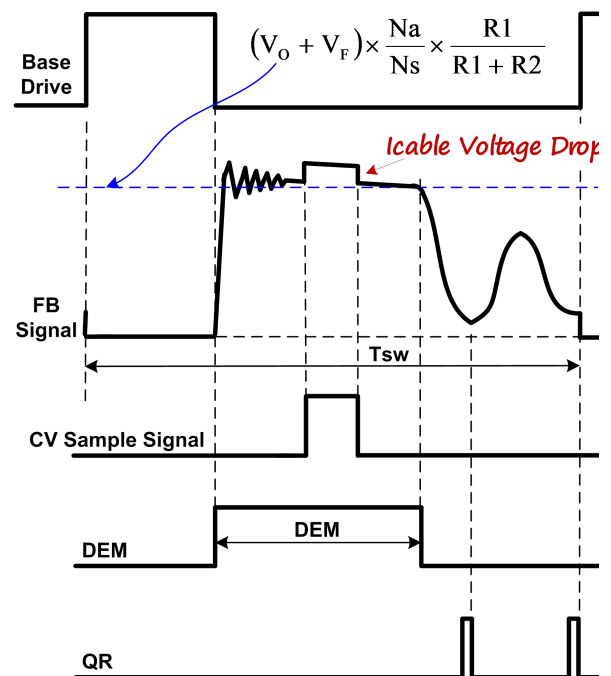

Fig.2
In Primary Side Regulation (PSR) control, the output voltage is sensed on the auxiliary winding during the transfer of transformer energy to the secondary. Fig.2 illustrates the timing waveform of CV sampling signal, demagnetization signal (DEM) and quasi-resonant (QR) trigger signal in DP1804. When the CV sampling process is over, the internal sample/hold (S&H) circuit captures the error signal and amplifies it through the internal Error Amplifier (EA). The output of EA is sent to the Quasi Resonant PSR CV Modulator (QR-CVM) for CV regulation. A valley is selected to trigger new PWM cycle by the output of the QR-CVM block, which is determined by the load. The internal reference voltage for EA is trimmed to 1.3V with high accuracy.
During the CV sampling process, an internal variable current source is flowing to FB pin for Cable Drop Compensation (CDC). Thus, there is a step at FB pin in the transformer demagnetization process, as shown in Fig.2. Fig.2 also illustrates the equation for